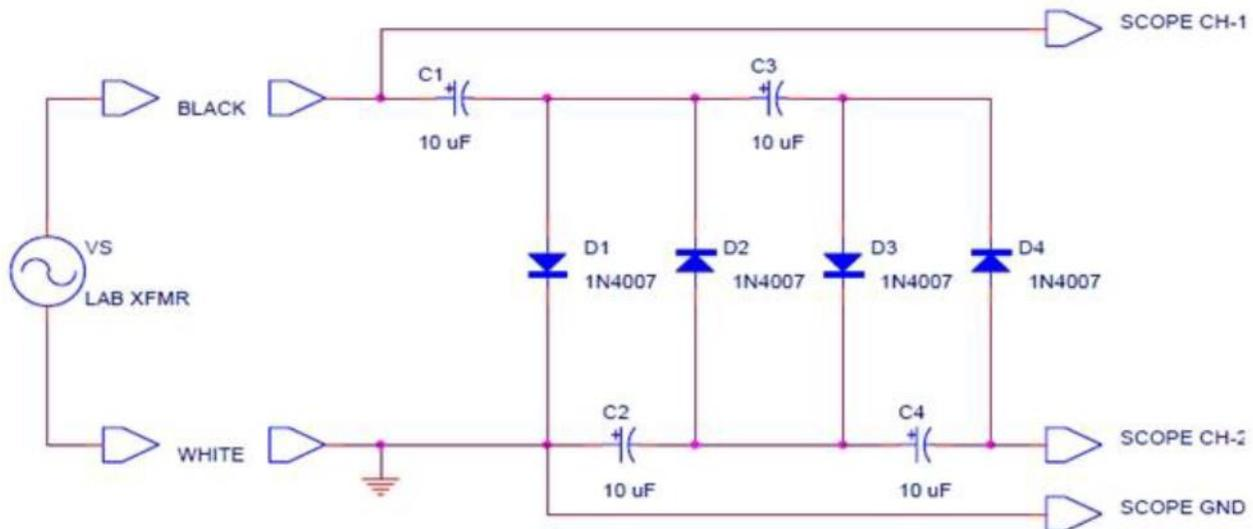

Figure E2.8
Add additional diodes and capacitors to the breadboard to produce the circuit shown in Fig. E2.8 below. Be very careful to install each diode and each capacitor in the correct polarity.
**Measurement-8** Adjust the vertical position of both oscilloscope channels so that the zero voltage level is aligned to the center cross hair on the screen. Draw a schematic of the multiplier circuit in your notebook, and then place a little sketch of the voltage waveform existing at each end of each diode (8 nodes total) beside each of the nodes in your schematic. Use the Ch-2 oscilloscope probe to sample each of these waveforms. Measure the DC output voltage that appears at the node between D4 and C4, as shown in Fig. E2.8. This is the actual output terminal of the multiplier. Use the bench DMM to measure the voltage existing across each capacitor and record these values and their polarities on the schematic in your notebook.